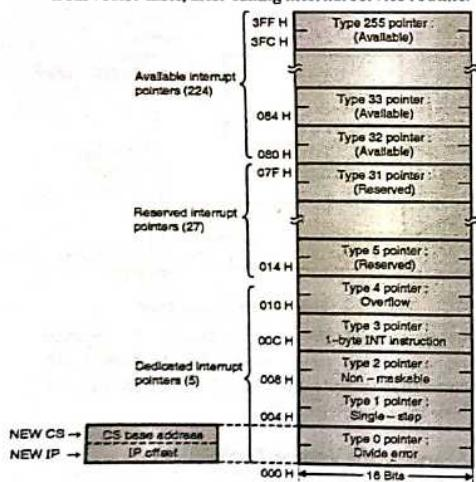

Fig. 7.4.1 : Interrupt vector table
- If you observe Fig. 7.4.1, you will find that, total interrupt vector table is divided into three groups :